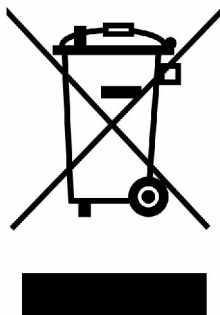

Fig. 11.1 Crossed Out "wheelie bin" Symbol
- marked correspondingly with the crossed out "wheelie bin" logo (see Fig. 11.1)